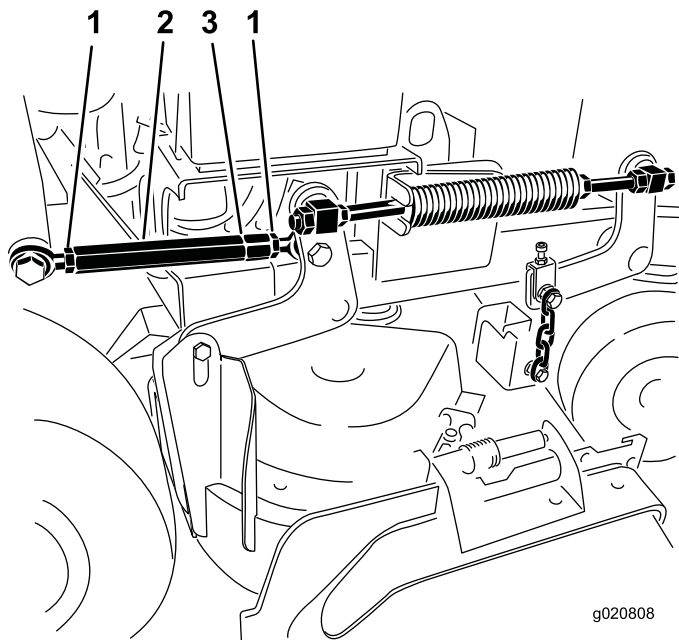

Figure 86
5. Loosen the jam nuts at both ends of the turnbuckle (Figure 86).
Note: The end of the turnbuckle with the groove machined in it, has left-hand threads (Figure 86).